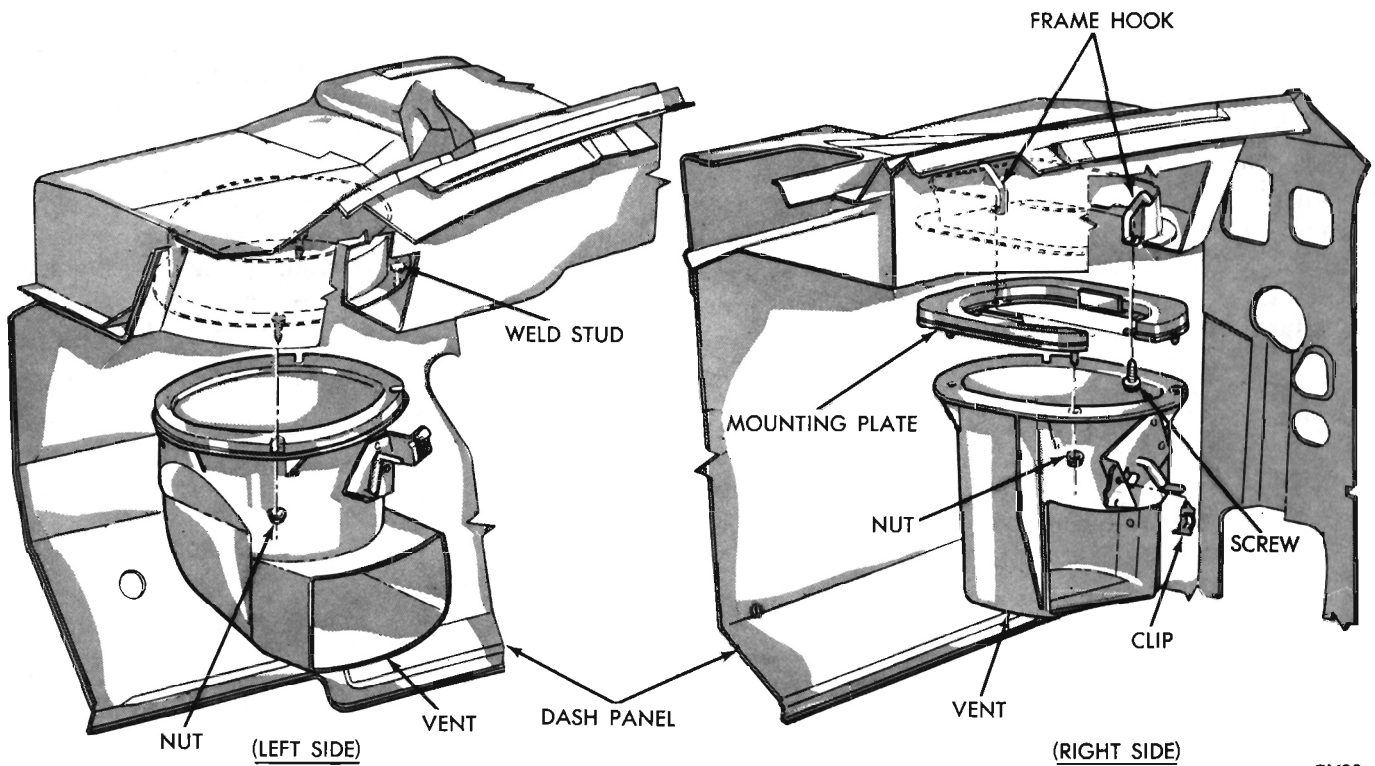

Fig. 1 - Outside Air Vents
**OUTSIDE AIR VENTS (Fig. 1)**
The left side vent is attached to the cowl assembly and the right side vent is part of the heater unit (Fig. 1). Vents are not available with air conditioning.